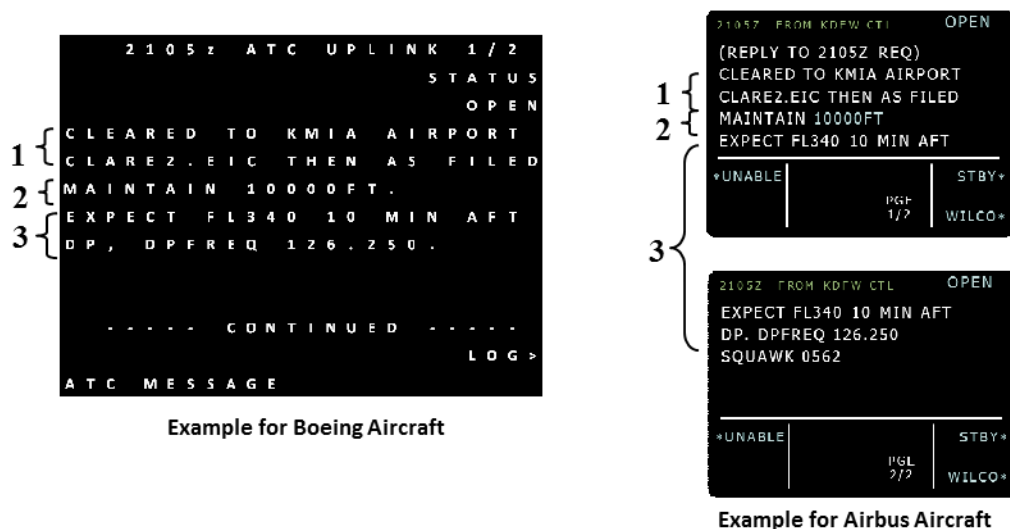

Figure 13. Depiction of CPDLC-DCL including “THEN AS FILED”
1. In the example shown in Figure 13, no changes have been made to the AOC Dispatch “Filed” ATC flight plan: